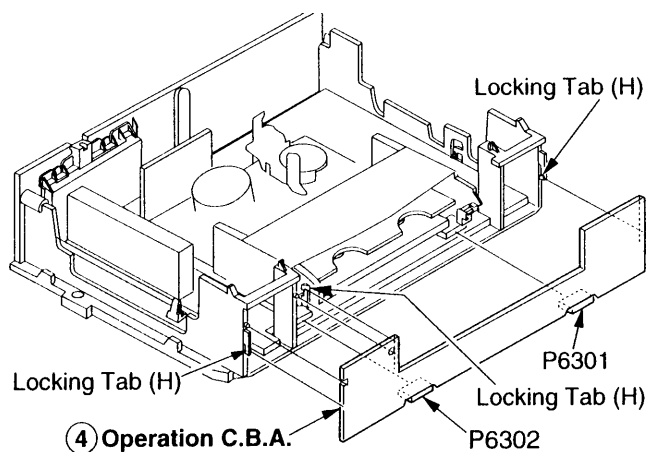

Fig. 7 - Operation Circuit Board (Model VR692HF) Removal
1. Release three (3) locking tabs (H) (Fig. 7).
2. Disconnect two (2) connectors (P6301, P6302) on the Operation circuit board.